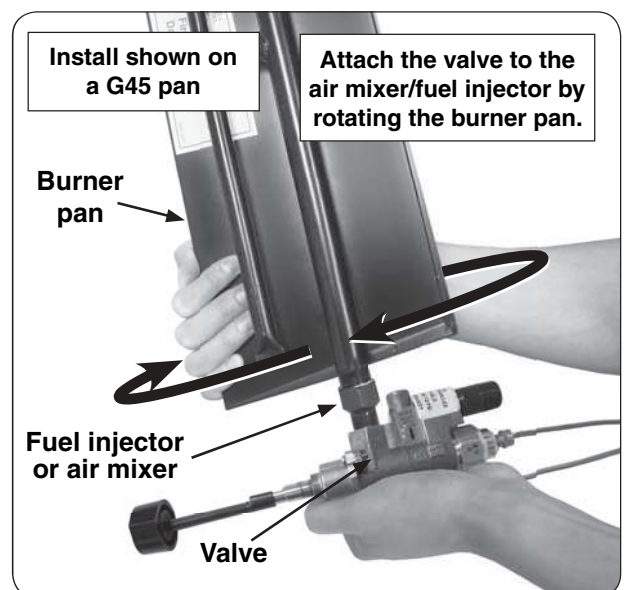

Fig. 5-2 Install valve
2. Install the valve to the fuel injector or air mixer by screwing the pan into the valve (Fig. 5-2). Take care not to damage the attached pilot assembly when rotating the burner pan. Be sure all connections are tight.